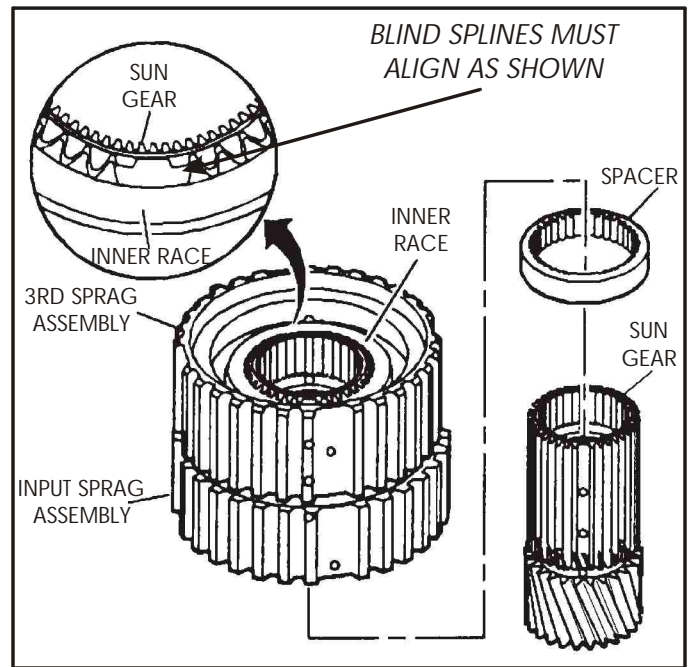

Figure 100
13. Install the sun gear spacer onto the input sun gear, as shown in Figure 100.
14. Install the inner race and input/3rd clutch sprag assembly onto the input sun gear, as shown in Figure 100.
Important: The blind splines on the input sun gear and the sprag inner race **must** be aligned, as shown in Figure 100.